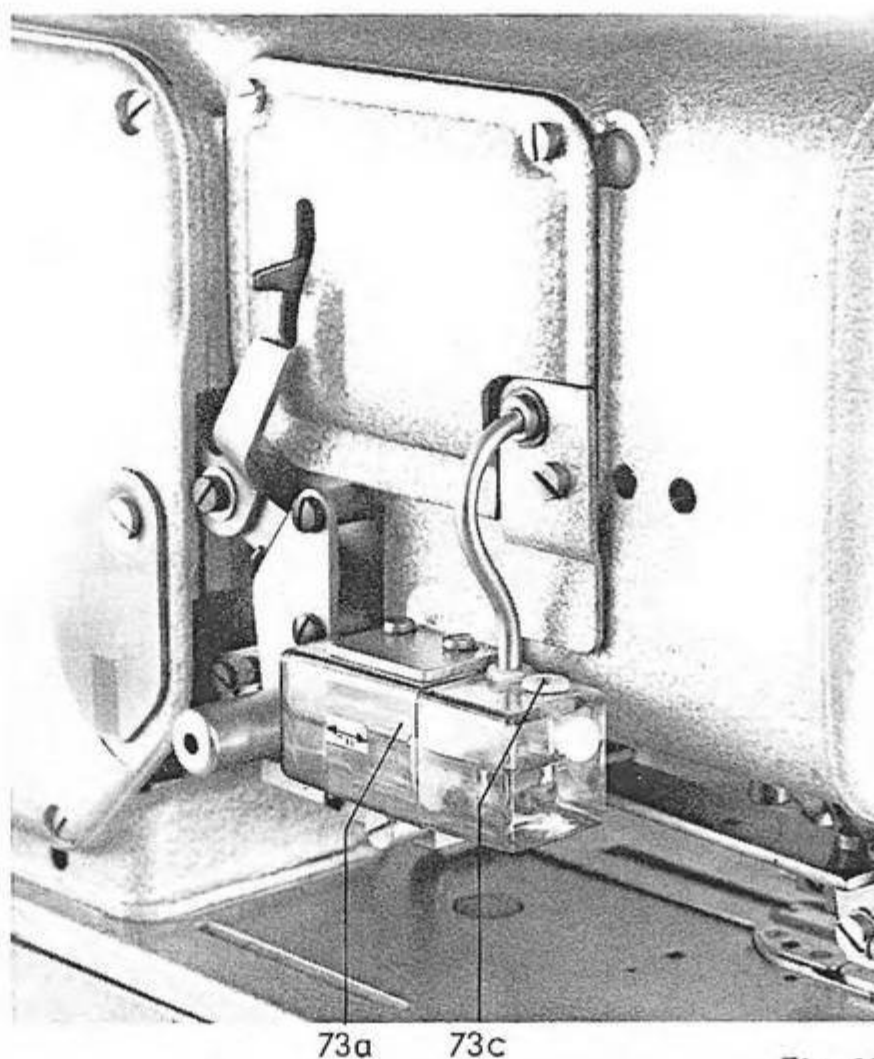
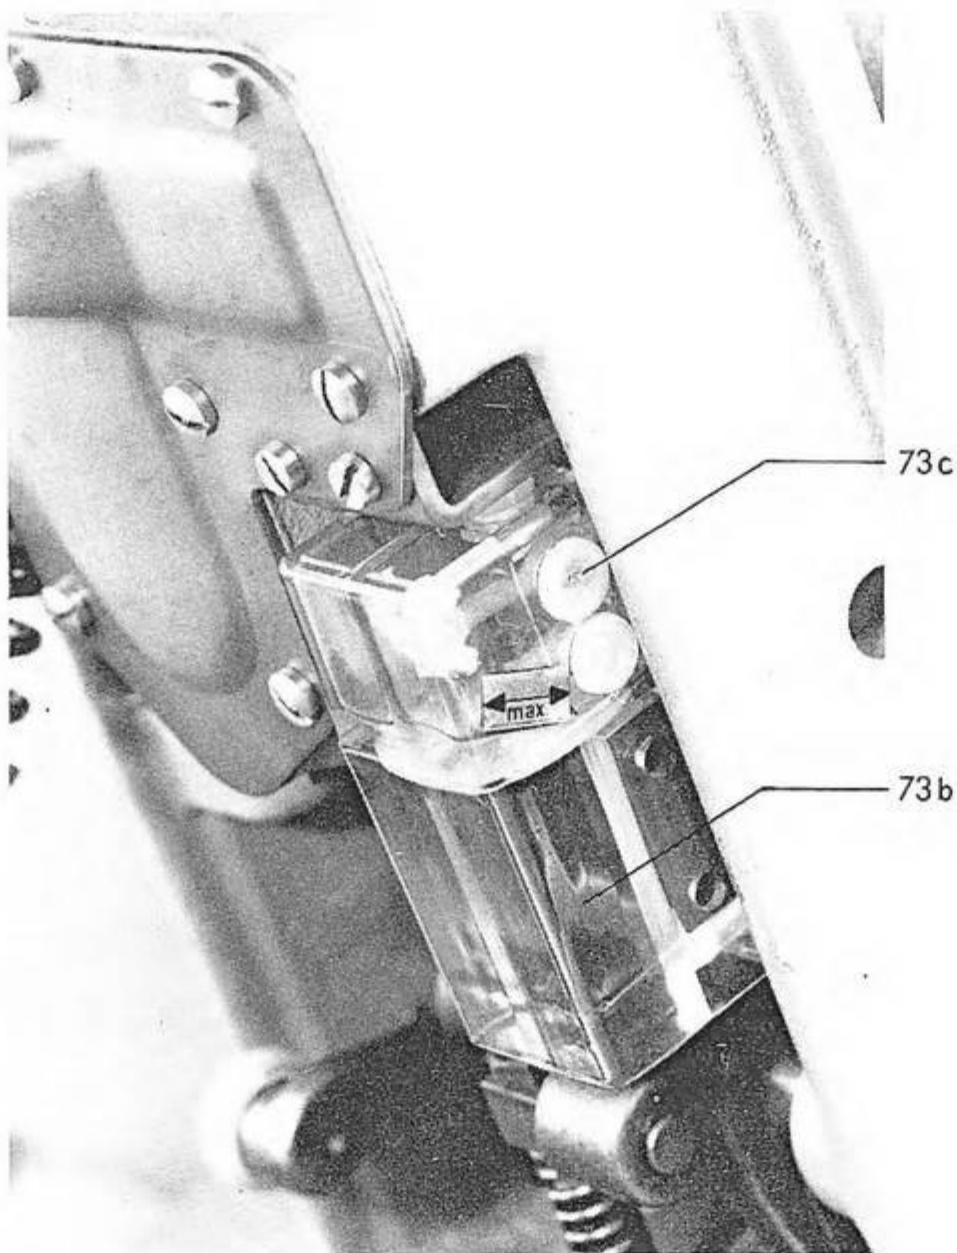

Fig. 19
Fig. 19a
2. Filling with oil the three supply containers 73a and 73b on the machine arm (fig. 19) and below the base plate (fig. 19a).